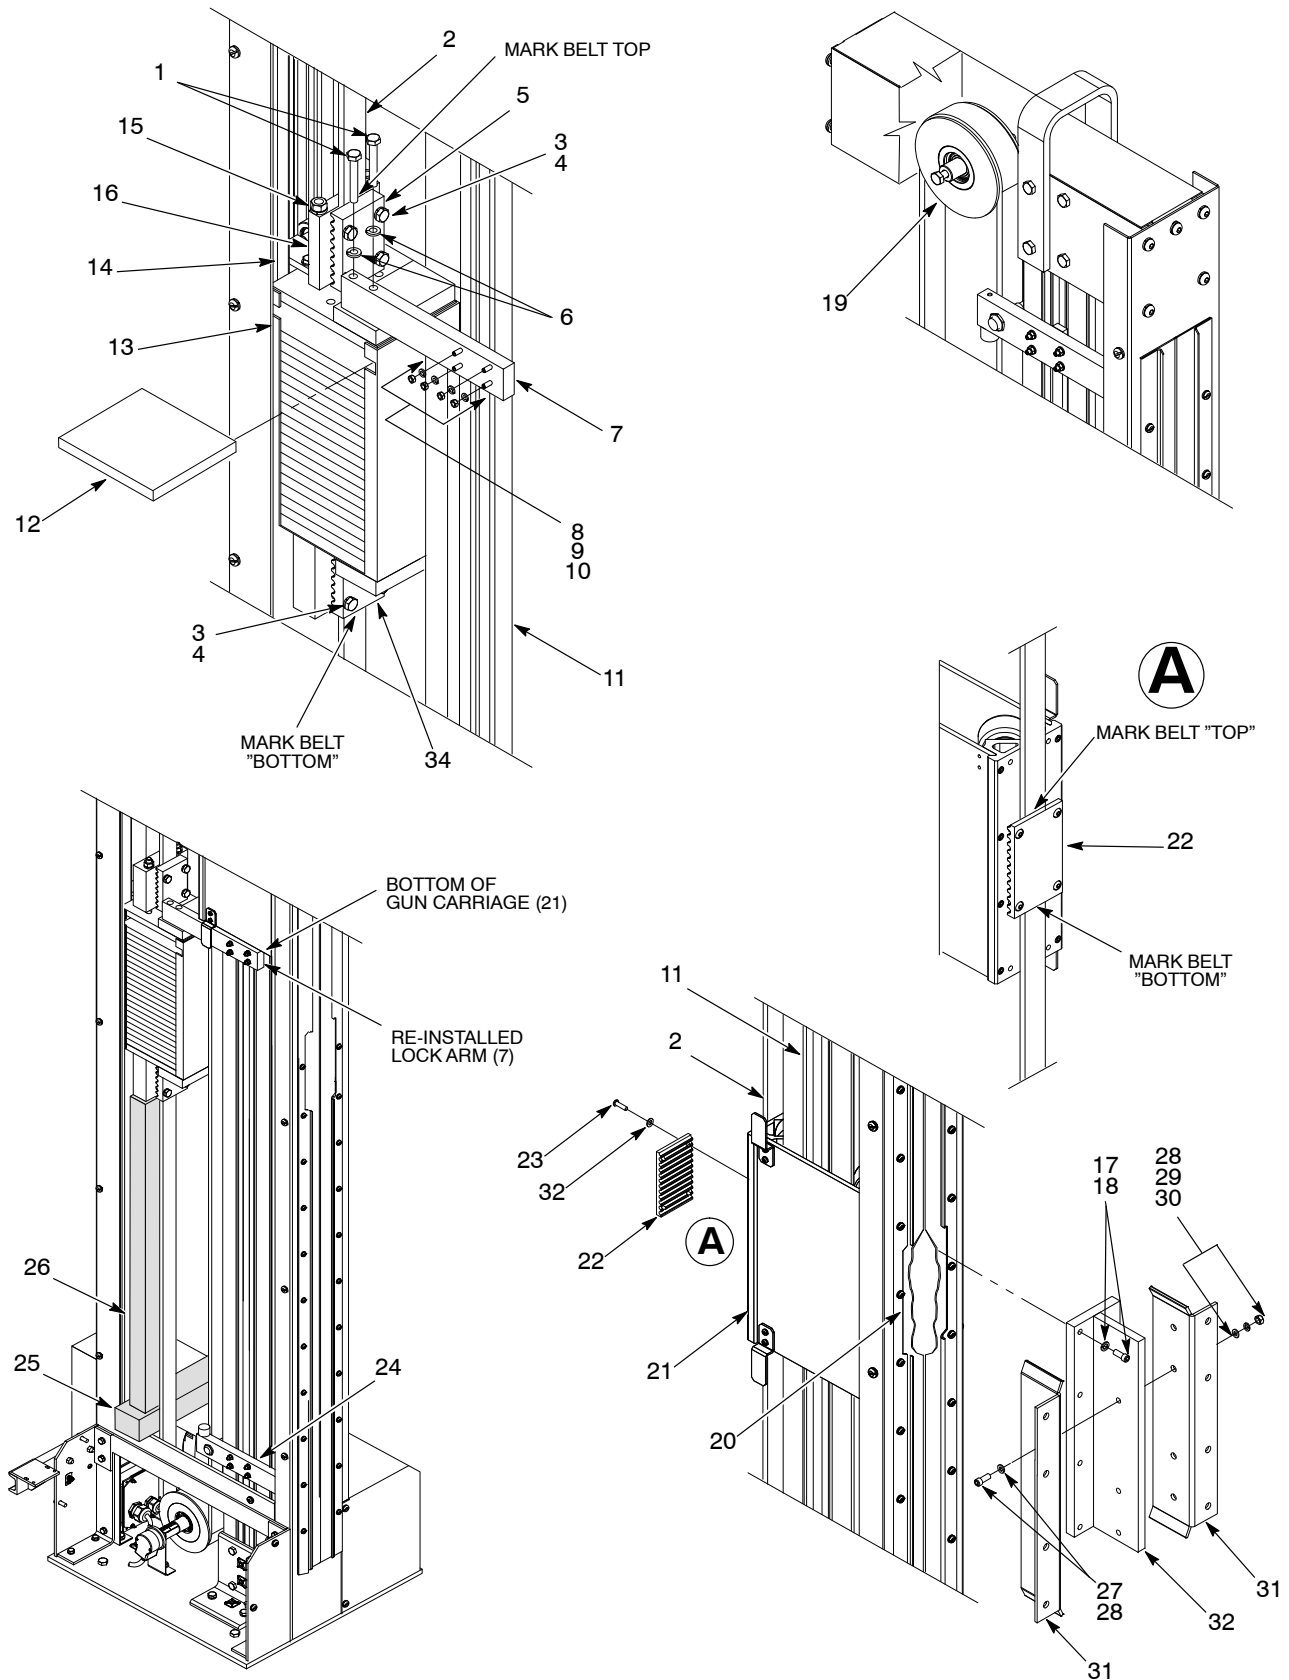

Figure 14 Installing the Gun Carriage Mount
- a. Manually move the gun carriage (14) until the bottom surface is positioned slightly above the counterweight basket (7).
- b. Install the T-bolts (12) through the back of the lock arm (9). Install the lock arm to the counterweight basket (7) using the lock washers (15) and the screws (16). Tighten the screws securely.
- c. Manually move the gun carriage (14) downward until it makes contact with the top of the lock arm (9).
- d. Insert T-bolts (12) into the gun carriage track (13). Install the lock washers (11) and nuts (10) onto the T-bolts. Tighten the nuts securely.
- e. Mark the gun carriage (21) position on the gun carriage track (11).
- f. Mark the counterweight basket (13) position on the counterweight basket track.
4. Remove the guns and the gun bar mount from the gun mount plate (18)
5. Record the number of counterweights (8) and remove them from the counterweight basket (7).
6. See Figure 14. After all guns, gun bar mounts, and counterweights have been removed, perform the following:
- a. Loosen the lock arm (7) nuts (9) until the T-bolts (8) can be rotated 90 degrees and pulled outward from the slots in the carriage track (11). Remove the screws (1) and the lock washers (6) securing the lock arm (7) to the top of the counterweight basket (13). Remove the lock arm (7).
- b. Manually move the gun carriage (21) by the notch (20) in the flap retainer.
7. Remove the cross bolts (27), lock washers (29), washers (28), and nuts (30) securing the gun mount plates (31) to the mounting block (32).
8. Remove the screws (17) and lock washers (18) securing the mounting block (32) to the front of the gun carriage (21).